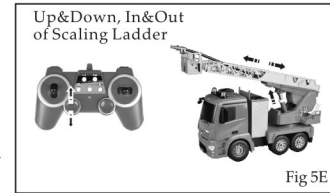

Fig 5E
- After starting the car, to press the key of Up& Down of Scaling Ladder, the scaling ladder of the fire truck would raise up (come down) slowly; at the same time, the second condole would hand over(draw back) slowly with a series of mechanical sound, flashing lights at the top of cab, lighting up of the front and back lights(Fig 5E).